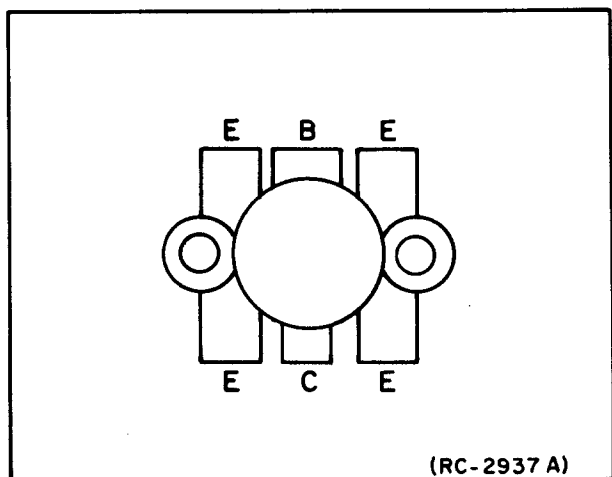

Figure 2 - Transistor Lead Identification
1. Trim the new transistor leads (if required) to the lead length of the removed transistor. The collector lead of the transistors is identified by the smaller center lead (See Figure 2). The letter "C" on top of each transistor also identifies the collector.